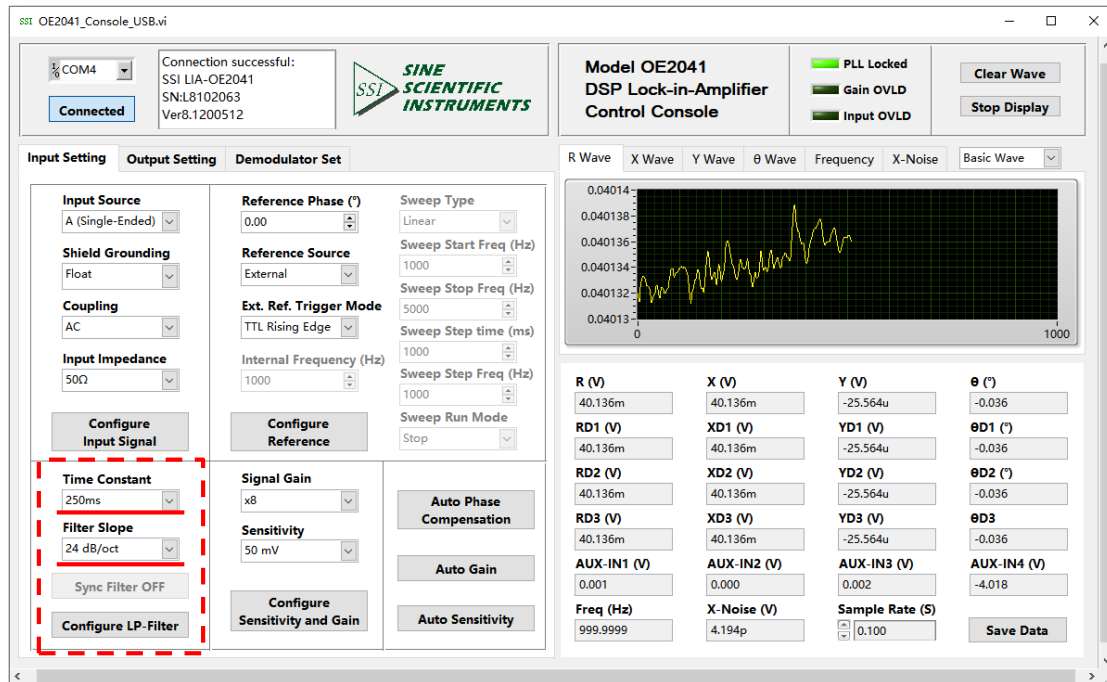

Fig.79 Filter Configuration
3. Choose these two options in “Filter Configuration”, including “Time Constant” and “Filter Slope” with other options in default, as is shown in Fig.79. At last, click the button “Configure